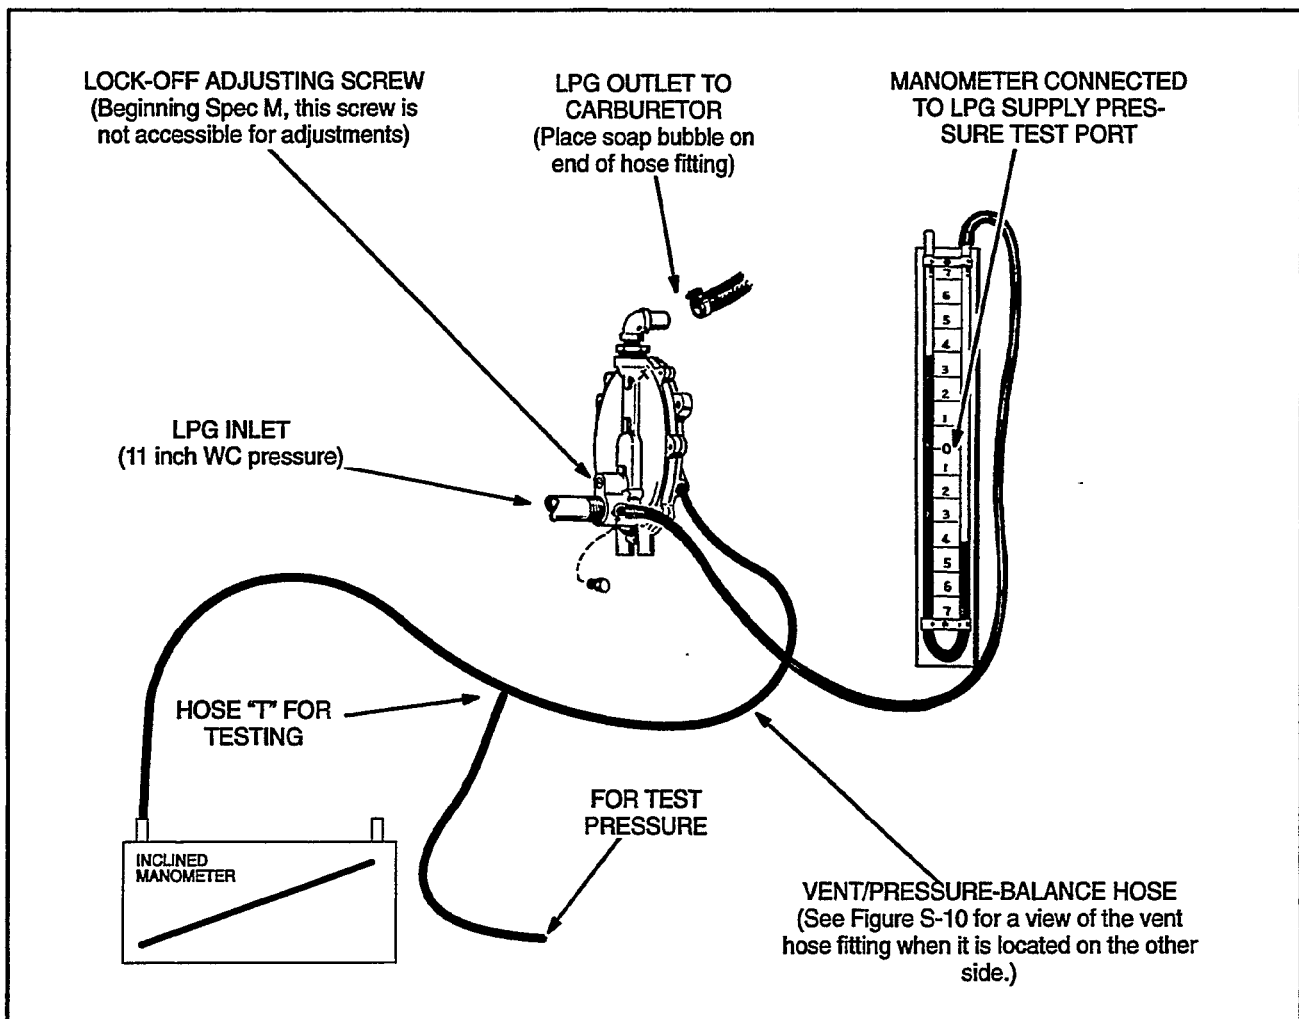

FIGURE S-11. LPG SUPPLY PRESSURE AND REGULATOR LOCK-OFF PRESSURE
2. Remove the 1/8 inch pipe plug from the regulator test port (Figure S-11) and connect a manometer calibrated in inches or mm WC (water column) having a scale range of at least 14 inches (350 mm).
1. Continue with the test setup for adjusting LPG supply pressure shown in Figure S-11. If the regulator is being tested on the bench, connect it to a source of air pressure regulated to 11 inches WC (280 mm WC).